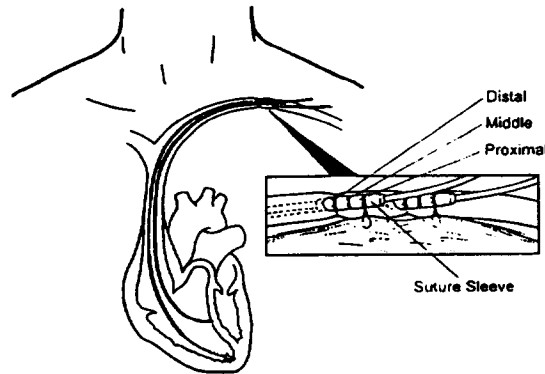

Figure 2: Anchoring the AngeFlex Lead
4. After securing the suture sleeve, manually grasp it and carefully attempt to move the lead in either direction to verify lead security. (Figure 2 depicts an anchored AngeFlex lead.)